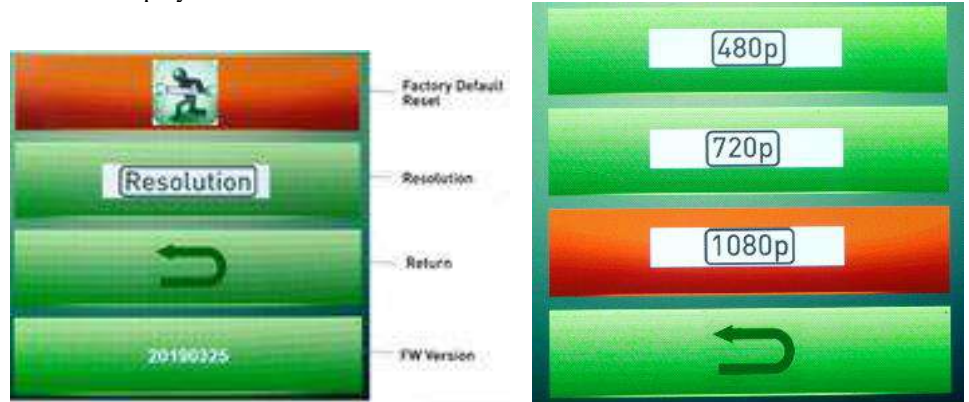

Figure 10
- 22. Factory Default: Reset to default setting. **Fig. 10**